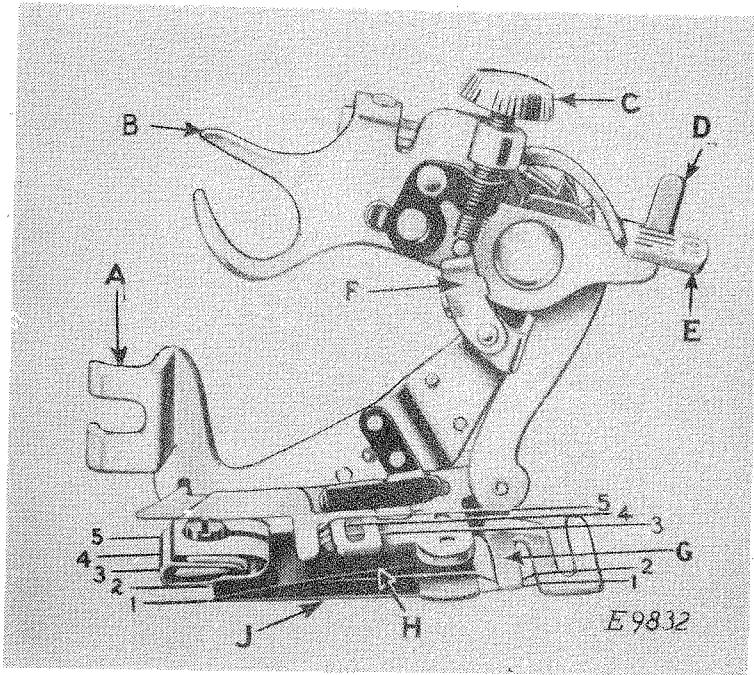
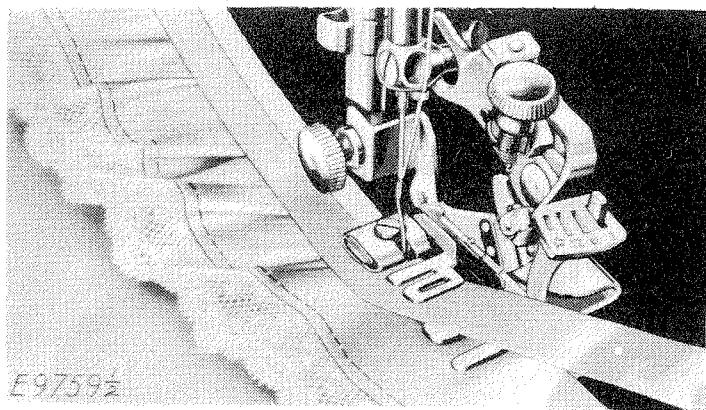

FIG. 40. THE RUFFLER AND ITS PARTS.
FIG. 43.
Lines 1, 2, 3, 4 and 5 in Fig. 40 indicate where the material is to be placed for various operations, as follows :
Refer to Fig. 40 when inserting the material in the ruffler.
The names and uses of the principal parts of the ruffler are as follows, see Fig. 40 :
Raise the adjusting lever (E) and move it to the left so that the projection (D) will enter the slot marked "I" in the adjusting lever (E) when the lever is released. The ruffling blade will then move forward and back once at every stitch. Insert the material to be ruffled between the two blue blades, following the line 2 in Fig. 40. Draw the material slightly back of the needle, lower the presser bar and commence to sew.
2 (Fig. 40). Place the garment to which the ruffle is to be attached, under the separator blade, following the line 1 (Fig. 40). Proceed the same as for gathering.
Insert the material to be ruffled between the two blue blades, following the line 2 (Fig. 40). Place the garment to which the ruffle is to be attached under the separator blade, following the line 1 (Fig. 40). Place the material for the facing over the upper blue blade, as shown in Fig. 43, following the line 3 (Fig. 40). The facing may be straight or bias material. If the facing is to be on the right side of the garment, place the garment and the ruffle so that the wrong sides are together. If the facing is to be on the wrong side, place the right sides of the garment and the ruffle together.
Insert the material to be ruffled between the two blue blades, following the line 2 (Fig. 40). This
The material for piping must measure about  $\frac{1}{4}$  inch wide when folded in the centre and is usually cut on the bias. Place the piping material in the ruffler, following the line 4 (Fig. 40) with the folded edge of the piping to the right. The material to which the piping and ruffling are to be sewn should be folded on the edge and inserted in the ruffler, following the line 5 (Fig. 40).
marked "6" in the adjusting lever when the lever is released. The ruffling blade will then move forward and back once at every six stitches. To adjust the ruffling blade to make a plait once at every twelve stitches, place the adjusting lever (E) so that the projection (D) enters the slot marked "12" in the adjusting lever. Insert the material to be plaited between the two blue blades, following the line 2 (Fig. 40). The size or width of plaits is regulated by the adjusting screw (C) and the